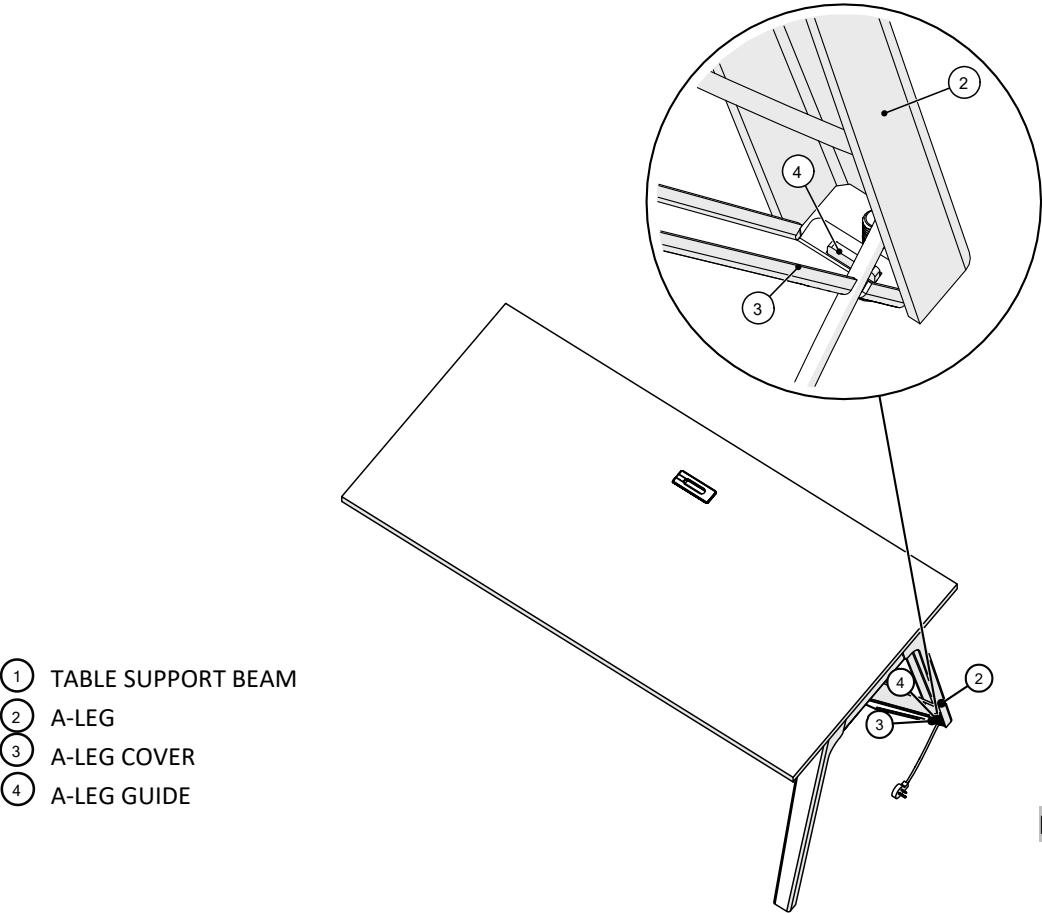

Figure 2
- 2. Insert the A-leg guide into the slotted hole of A-leg cover, (Figure 2).